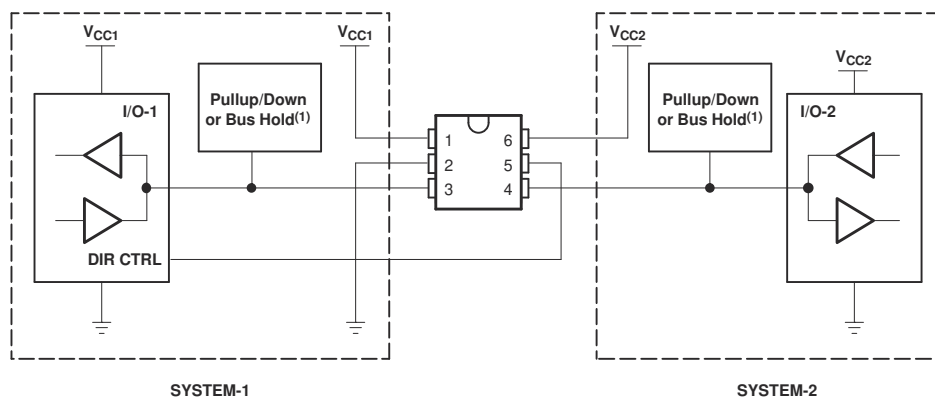

図 8-3. Bidirectional Logic Level-Shifting Application
図 8-3 shows the SN74LVC1T45 being used in a bidirectional logic level-shifting application. Because the SN74LVC1T45 does not have an output-enable (OE) pin, the system designer should take precautions to avoid bus contention between SYSTEM-1 and SYSTEM-2 when changing directions.